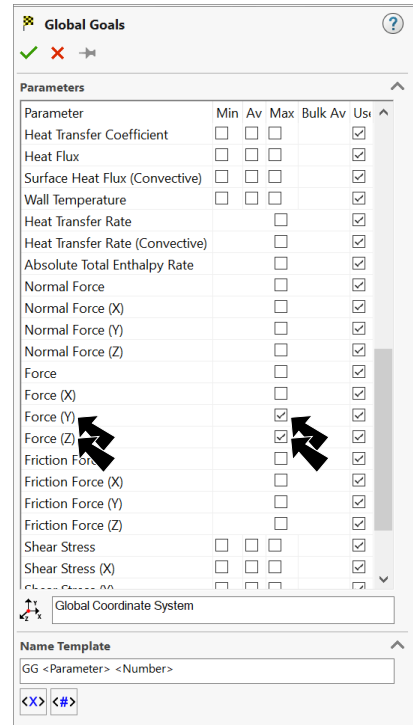

Fig. 11
Step 2. Drag the edge of the Feature Manager to the right to expand, **Fig. 11**.
scroll down the Parameters to **Force (Y)**, **Fig. 11**